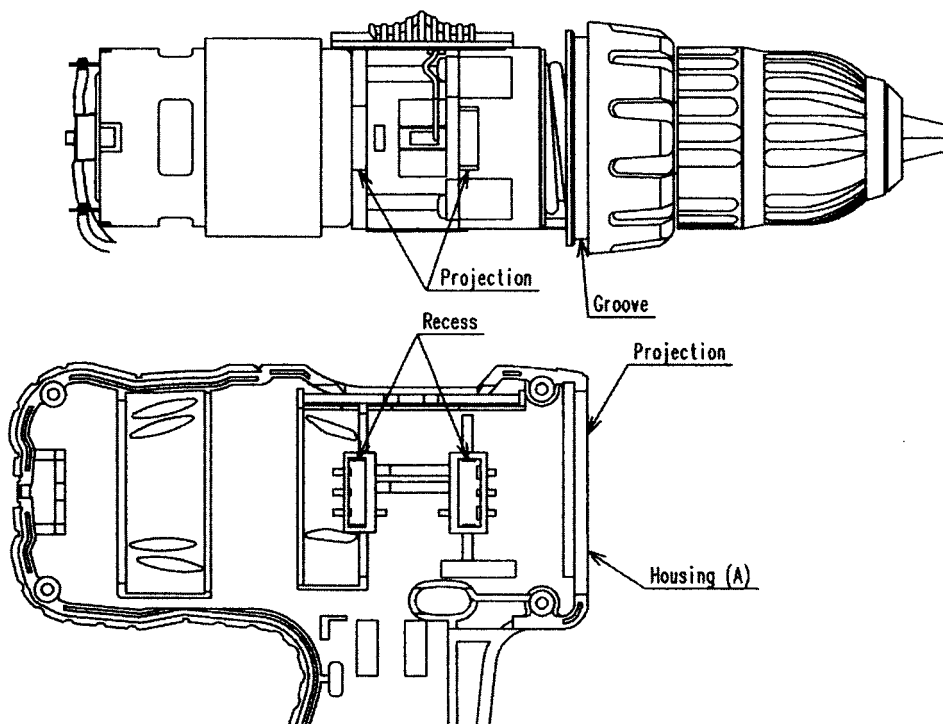

Fig. 17
(4) Installation of the assembly reassembled in step (3) into Housing (A). (B) Set [30]
(a) Install the assembly reassembled in step (3) into housing (A). Note that the projections on the Front Case [9] and the Motor Spacer [24] are engaged in the recesses in housing (A), and the projection on housing (A) is engaged in the groove of the Clutch Dial [4]. (See Fig. 17.)